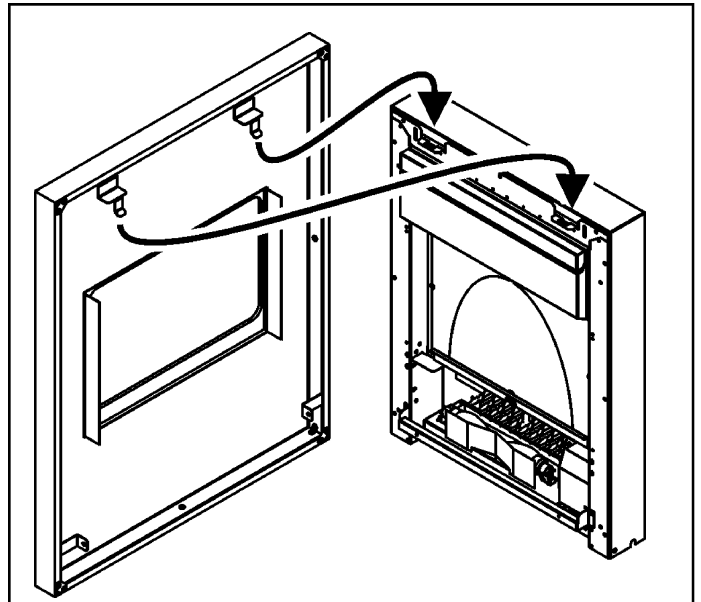

Figure 14. Fitting the fascia (Fascia may differ from that shown).
1. There are two hooked brackets on the top rear of the fascia. Locate the hooks into the brackets at the top of the heater (See figure 14).